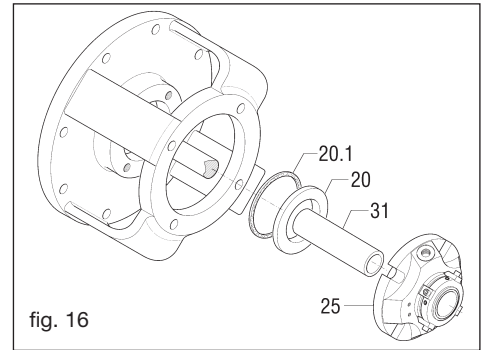

fig. 16
- To facilitate the initial assembly of the seal (fig. 16), smear a little oil on the shaft sleeve (31)